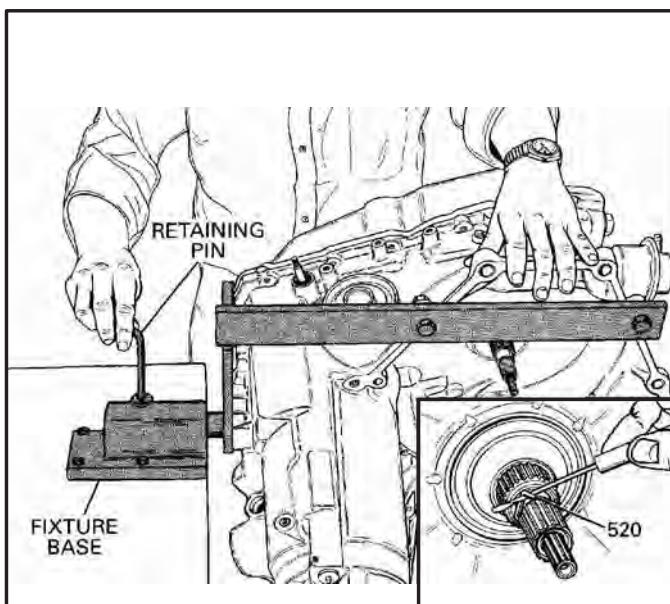

Figure 34
4. Install a suitable fixture on the transaxle so it can be rotated in a bench fixture, such as the one shown in Figure 34.
6. Remove the "O" ring from the turbine shaft using a small screwdriver (See Figure 34).